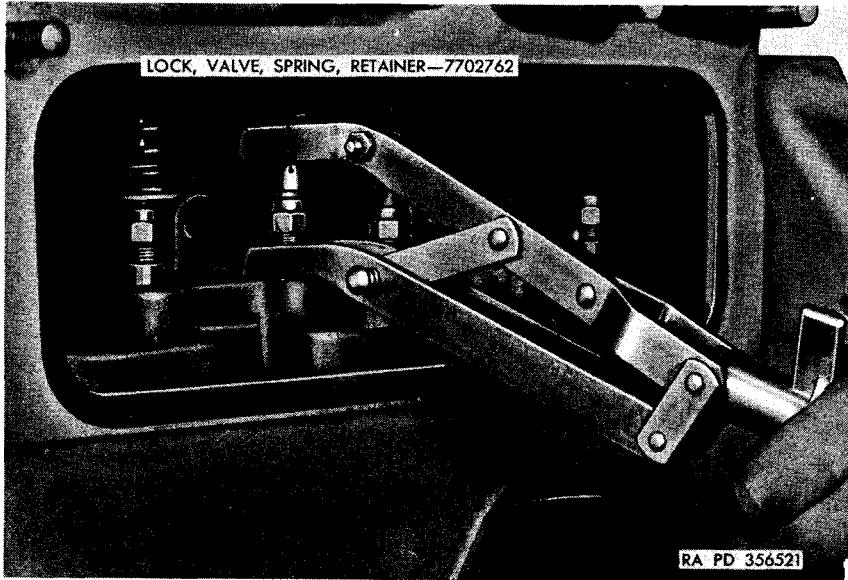

Figure 29. Removing valve spring retainer lock with valve lifter—41-L-1410.
- (1) Remove valve compartment covers.
- (2) Turn crankshaft until the front valve is all the way down on its seat and insert jaws of valve lifter between the lower end of the valve compression spring and the cylinder block, with the cupped jaws up. Hold the valve down and screw up the valve lifter until the valve spring is fully compressed. Remove the valve spring retainer locks (fig. 29) from the lower end of the valve stem. Remove the lifter and pull the valve